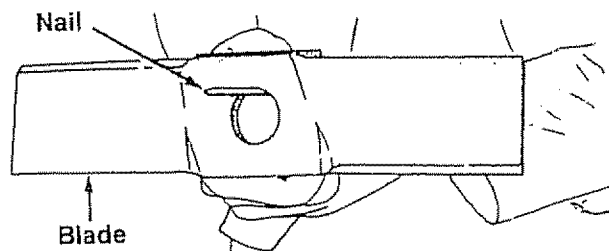

FIGURE 21.
- The blade can be tested for balance by balancing it on a round shaft screwdriver or nail. Remove metal from the heavy side until it is balanced evenly. See figure 21